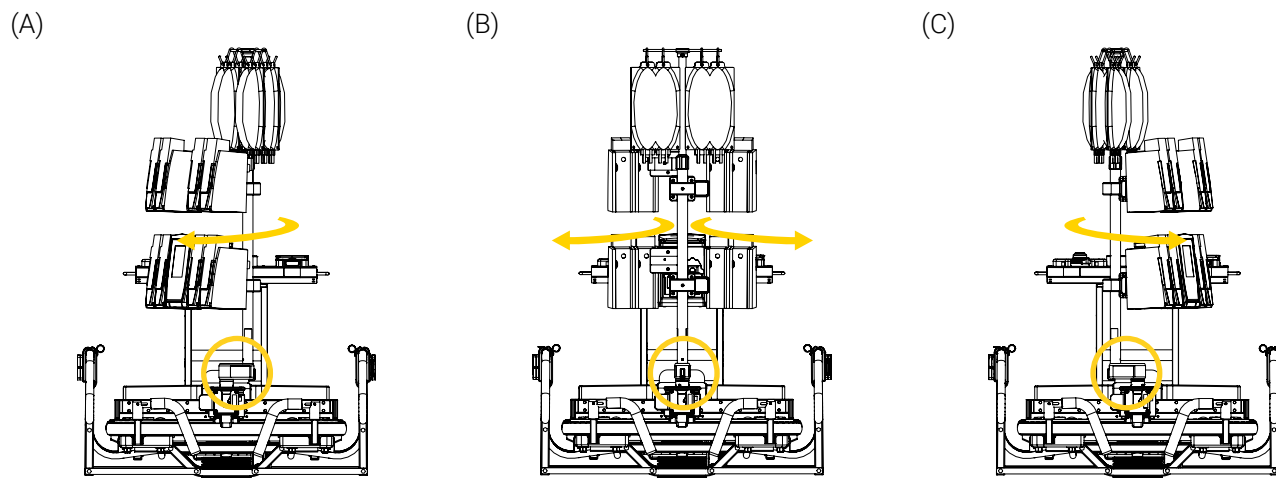

Figure 53: Rotating the IV pole
1. Press and hold the quick-release button located on the end of the swivel elbow (Figure 53). Refer to the « Activate the Locking Joint Mechanism » section on page 38 and « Deactivate the Locking Joint Mechanism » section on page 38 if needed.
2. Turn the IV pole clockwise or counterclockwise up to 180 until it has reached the desired position, release the button, then slightly turn the IV pole until you hear the click sound and the locking system has engaged (Figure 53).